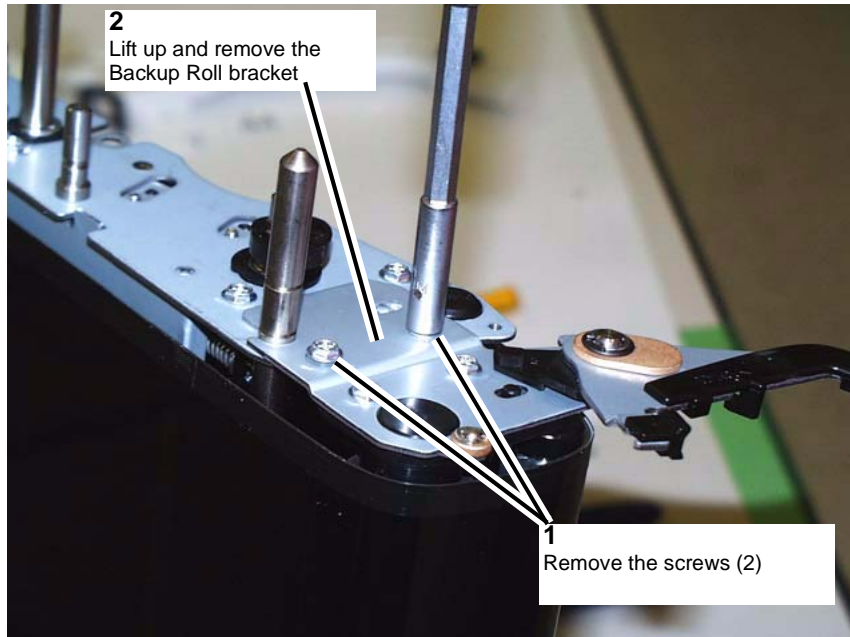

Figure 9 Removing the Backup Roll bracket
13. Remove the Backup Roll bracket. (Figure 9)